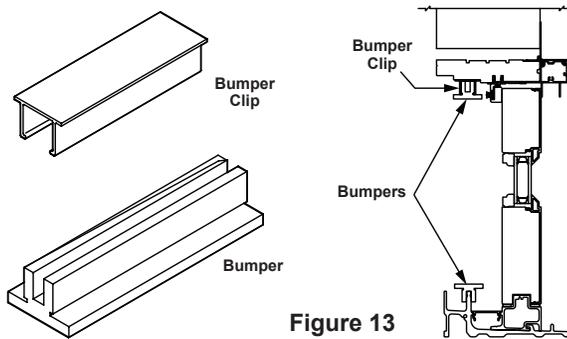

Figure 13
- Attach the supplied bumpers to the bumper clips located on the head jamb on the stationary panel sides of the door. Apply by pressing the bumper up into the installed clip. Place the other bumpers over the roller track on the sill (Figure 13).